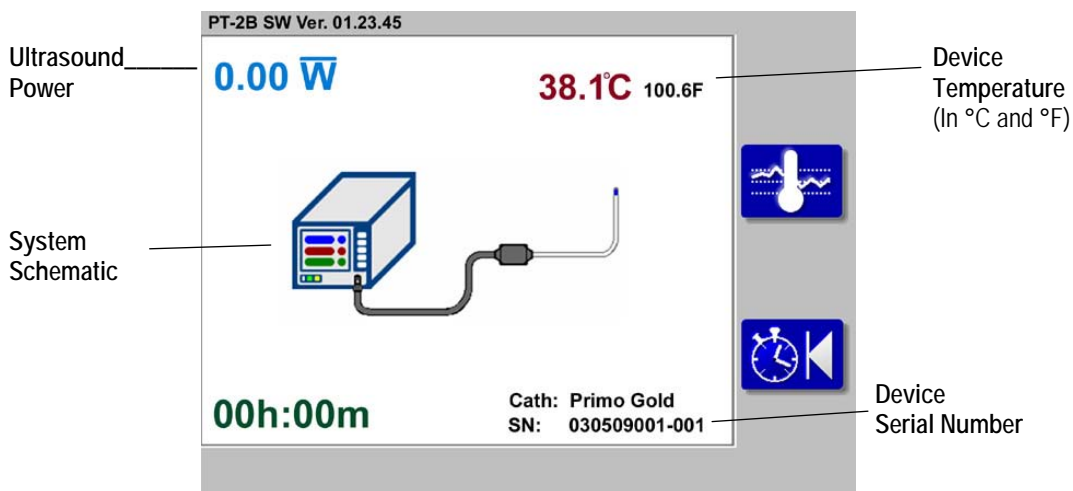

Figure 4. EkoSonic SV Control Unit indicating that CIC and device have been connected.
- After attaching the CIC and the MicroSonic SV Endovascular Device to the Control Unit, a screen similar to Figure 4 will be displayed. In the lower part of the screen the device model and serial number will be displayed.